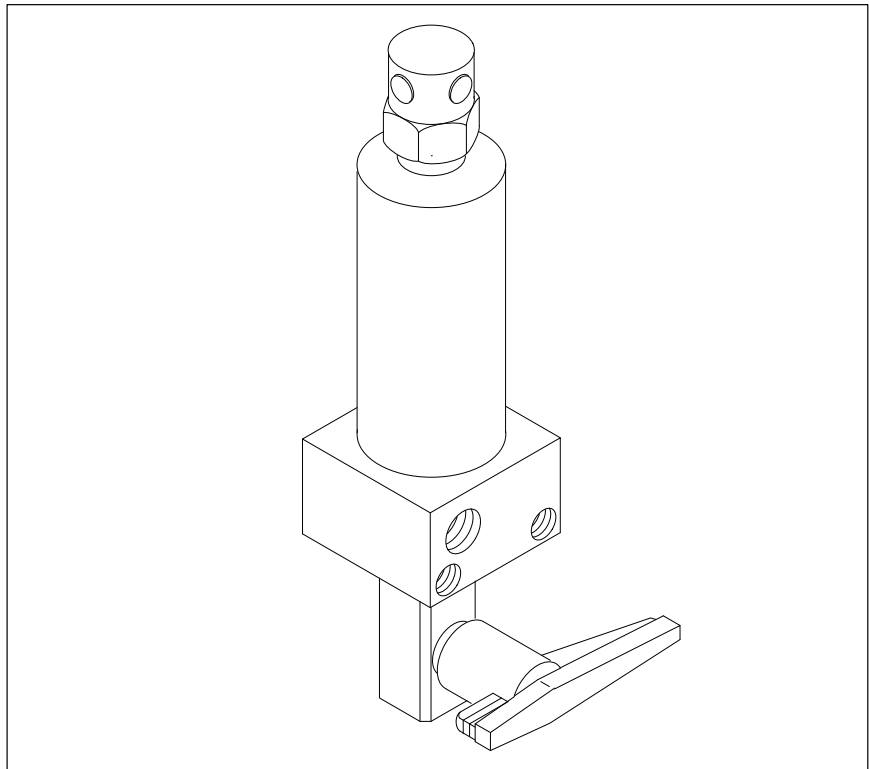

Fig. 1 Nordson High-Pressure Fluid Filter (Standard Steel Version Shown)
See Figure 1. Nordson high-pressure fluid filters prevent contaminants from plugging the nozzle by filtering them out of coating materials before they reach the gun. The filter assembly consists of a base assembly, housing, replaceable filter screen and a drain-off valve. These filters are available in steel or stainless steel, for wall mounting or direct mounting to a 5- or 55-gallon container lid or other equipment.
- a. Wall mount — Install the filter in an upright position. Orient as shown in Figure 1. Install two $\frac{5}{16}$ -20 x $2\frac{3}{4}$ -in. mounting bolts through filter base and mounting plate. Secure these with $\frac{5}{16}$ -in. lock washers and $\frac{5}{16}$ -20 hex nuts.